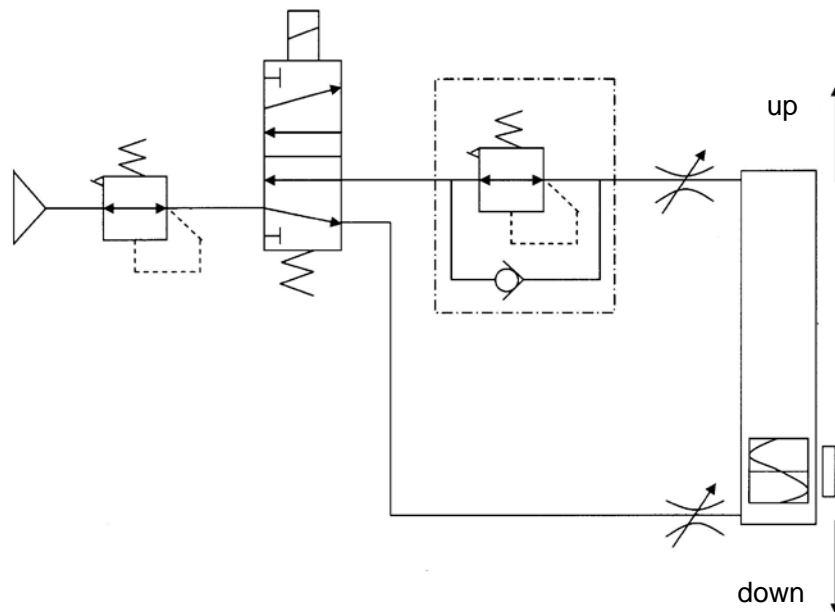

Fig. 5
- ① SMC's "throttle" type speed controllers (series AS) are recommended for speed adjustment. (Refer to Table.1)
- ② Speed adjustment is possible with meter-in/meter-out type speed controllers, but it may not be possible to obtain the cushion effect (Smooth start-up, soft-stop).
- ③ In the case of other than horizontal mounting, it is recommended that the system have a reduced pressure supply circuit (Refer to Fig.5) installed at its lower side. (This is also effective as a countermeasure against start-up delay on an upward stroke, and for air saving.)